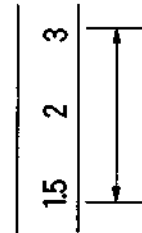

Fig. 7-11.
- 9) While holding the flange back adjusting pin ❷ to prevent further rotation, retighten the flange back setscrew ❶.
- 10) With the zoom lever fixed at its WIDE end, turn the focusing ring and set it to the position that provides the optimum definition image of the wedge. Check to assure the focusing mark position is within the range shown in Fig. 7-11. Also, rotate the focusing ring to the close (1.1m) and far (∞) extremes and confirm that the wedge is no longer in focus.